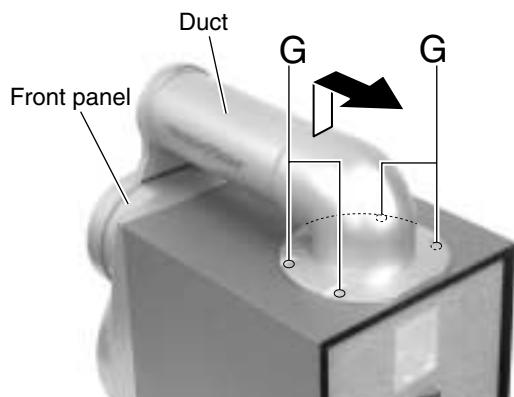

Fig.8
■Removing the duct (See Fig.8)